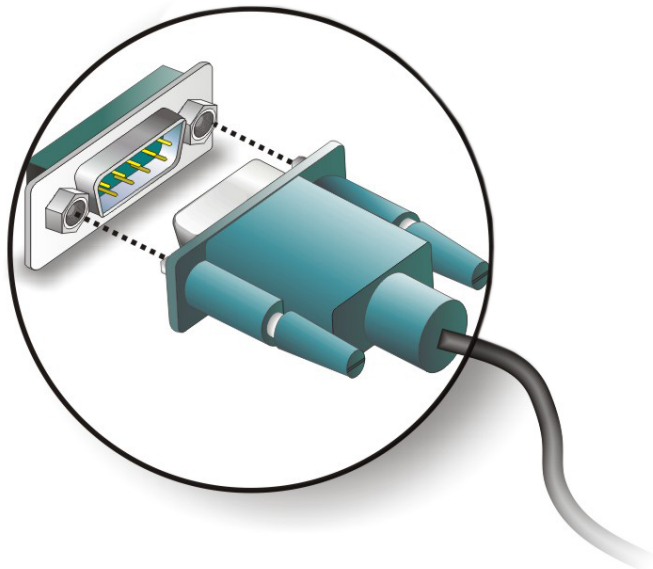

Figure 5-21: Serial Device Connector
Step 2: Insert the serial connector. Insert the DB-9 connector of a serial device into the DB-9 connector on the external peripheral interface. See **Figure 5-21**.